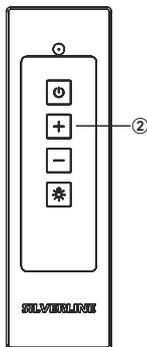

Fig. 23
1. ➔ Press the (+) button on the remote controller to increase \uparrow the revolution of the device (Fig. 23).